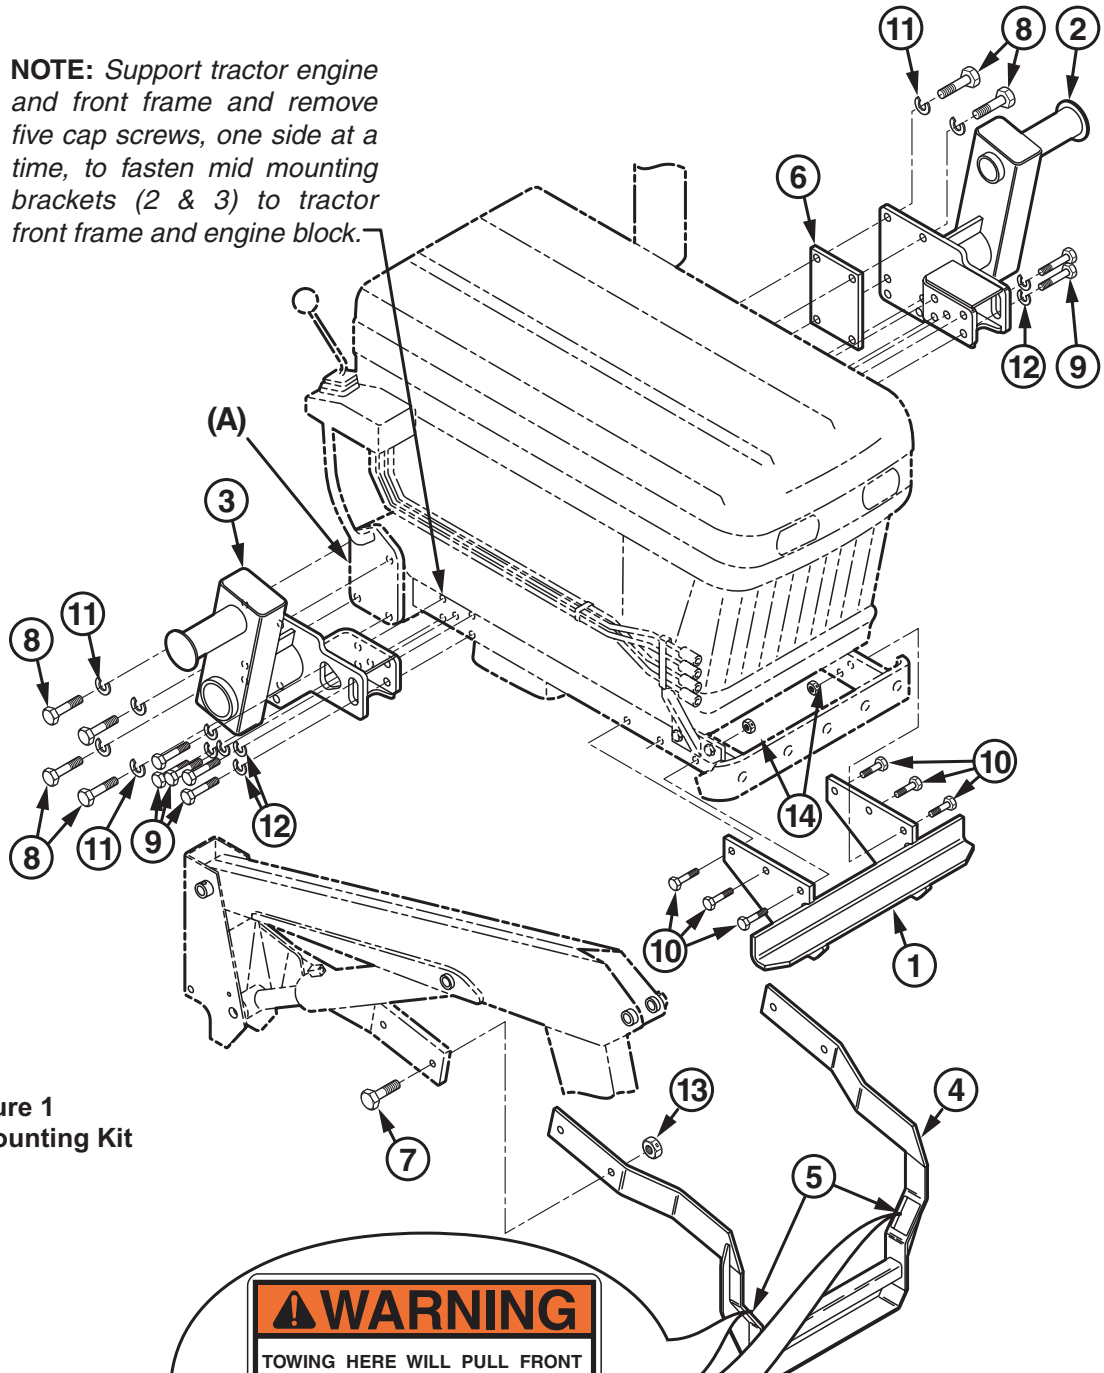

Figure 1
**NOTE:** *If installing optional grille guard (2-6225), install grille guard and front mounting bracket (1, Figure 1) at same time.*
### INSTALLING LOADER MOUNTING BRACKETS (Figure 1)